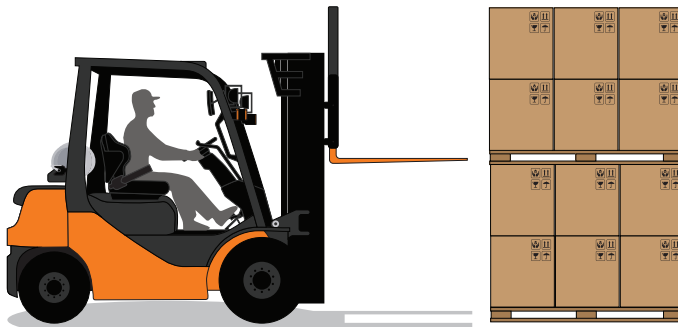

Figure 5.10. Lift the forks until they are level with the pallet.
2. Lift the forks to be level with the pallet (Figure 5.10).